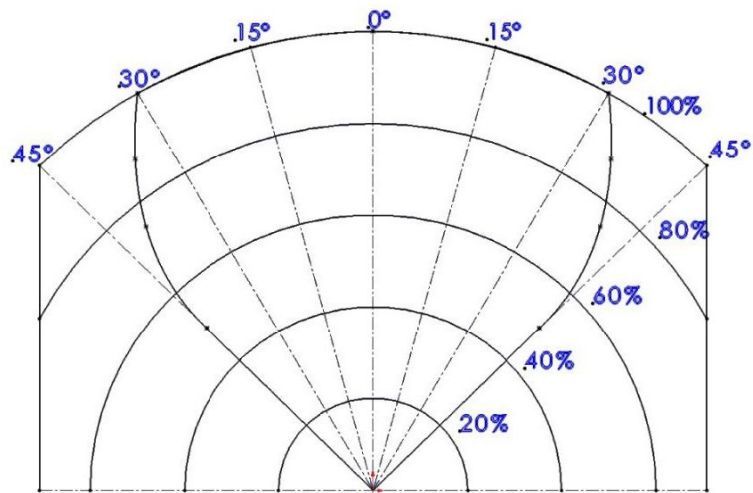
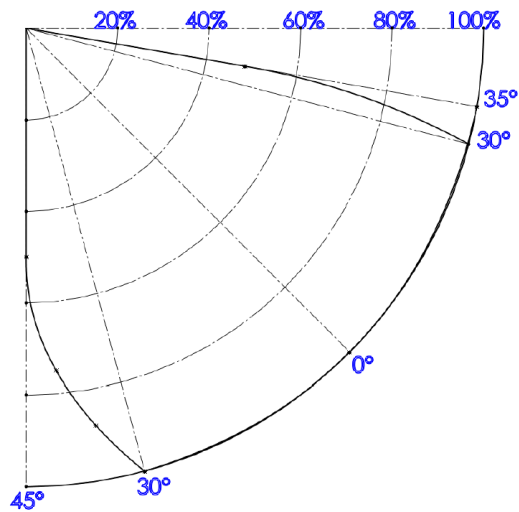

Figure 11 : - Horizontal field of view
Figure 12 : Vertical field of view
- ⚠ The field of view of the detectors (See Figure 11 and Figure 12)